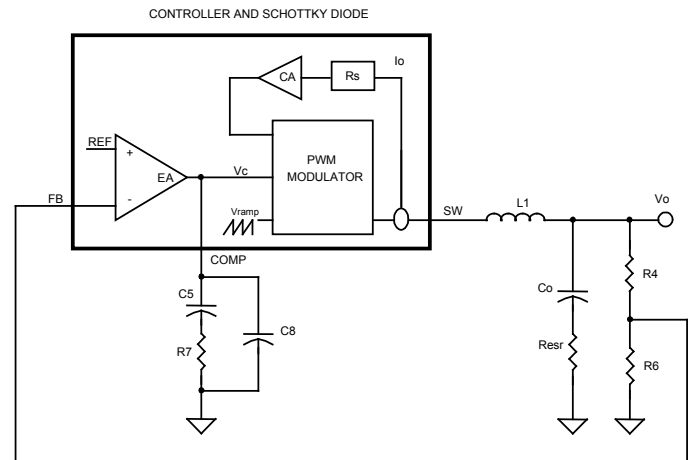

Figure 7 — Block diagram of control loops
The block diagram in Figure 7 shows the control loops of a buck converter with the SC4525D. The inner loop (current loop) consists of a current sensing resistor ($R_s=3.53m\Omega$) and a current amplifier (CA) with gain ($G_{CA}=18.5$). The outer loop (voltage loop) consists of an error amplifier (EA), a PWM modulator, and a LC filter.
For a converter with switching frequency F_{SW} , output inductance L_1 , output capacitance C_o and loading R, the control (V_c) to output (V_o) transfer function in Figure 7 is given by: